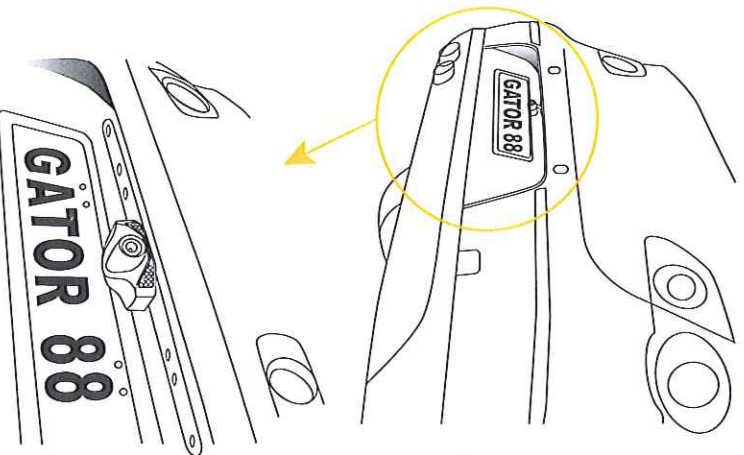

Fig.4
UNDER EAVE / UNDER BUMPER (FIG.4)
1. Remove the backing tape from the camera bracket and adhere the camera and bracket on the surface above the licence plate as per Fig4.